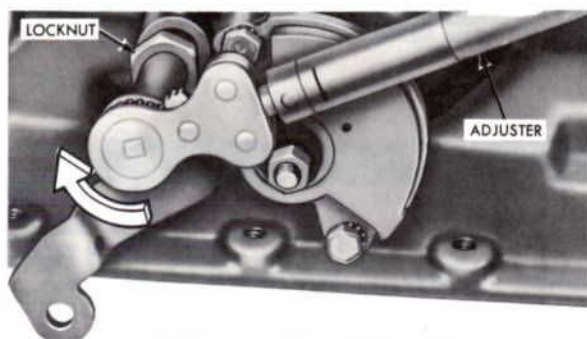

Figure 6—Band Adjustment
1. Loosen the locknut on the adjusting screw several turns (Figure 6).